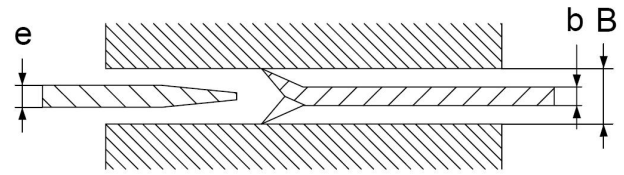

Fig.21
0.2mm greater than the saw blade plate. As shown in **Fig.21**.